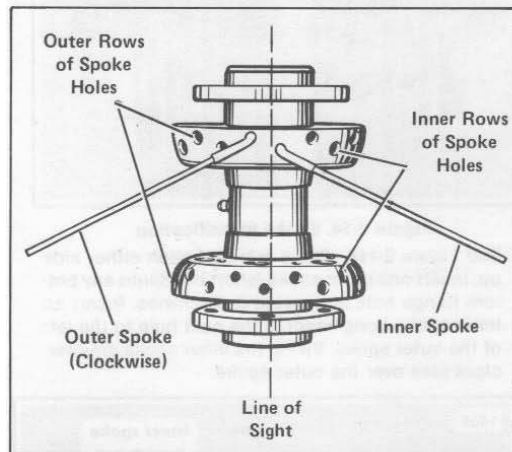
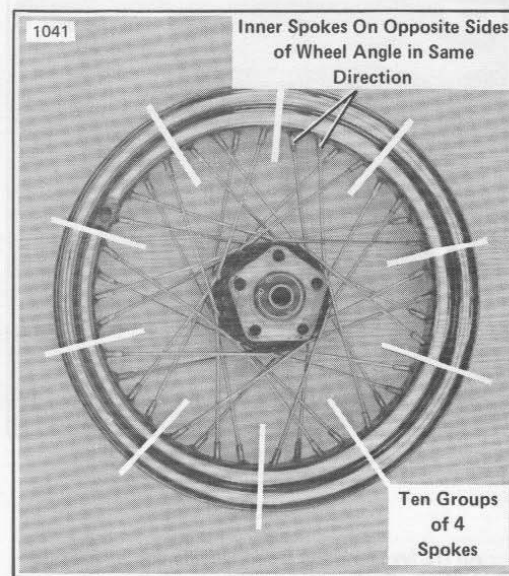

Figure 2-12. Early Style Hub
Figure 2-12B. Early Style Laced Wheel
Early Style Hub - See Figure 2-12. Pick any outside spoke hole and sight straight across the hub. The first spoke hole to the right of the centerline is an inner spoke hole. Also, with the wheel assembled, all inner spokes on opposite sides of the wheel angle in the same direction. See Figure 2-12B.
4. See Figure 2-12 and 2-12A. Insert 10 spokes into the upper flange inner spoke holes. Swing the loose ends clockwise as far as they will go.
5. See Figure 2-12B and 2-12C. The rim is divided into ten groups of spoke holes, 4 holes to a group. In each group, only one hole will be angled toward each upper flange inner spoke. Place the rim over the hub, either side up, and insert the spokes into these holes. Secure each spoke with a nipple screwed on the end about 3 turns, just enough to hold it in place.
6. When all 20 inner spokes are installed, insert a spoke into an outside spoke hole on the same flange side. See Figure 2-12 and 2-12A.